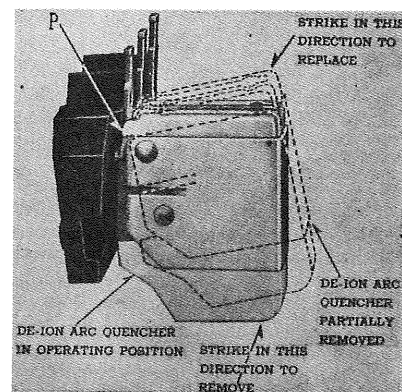

FIG. 1 — DETAIL OF ARC QUENCHER AND ITS SUPPORTING BRACKET, SHOWING EASE OF REMOVAL AND REPLACEMENT.
**De-ion Arc Quenchers**—To remove a De-ion arc quencher, grasp it at its lower end and swing it upward (it will pivot about point P, see Fig. 1), striking its lower corner upward with the palm of the hand to overcome any initial resistance to movement. The arc quencher is then free to be lifted entirely clear of the contactor.
To restore the De-ion arc quencher to its location on the contactor, slide it into the position indicated by the dashed lines in Fig. 1, and by striking the upper corner in a direction indicated by the arrow force the arc quencher into its final location.